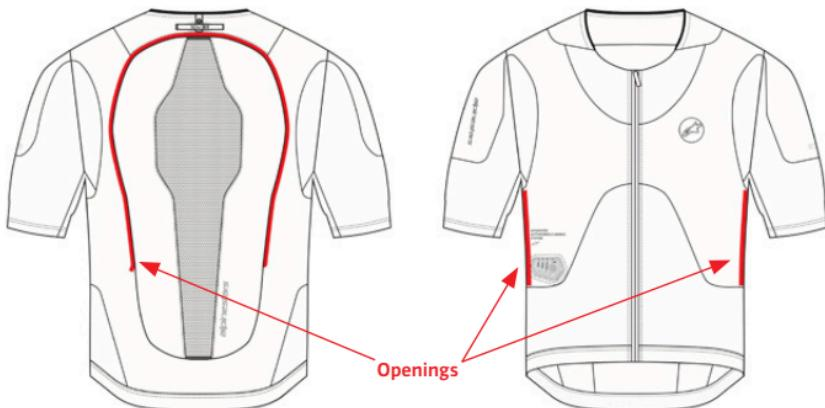

Figure 24: Base Layer (1) Openings
2. Detach the Back Protector (4) – Detach the Velcro on the upper part of the Back Protector (4) and separate the Back Protector (4) from the Base Layer (1).
3. Detach the Airbag (11) - Through the rear opening, proceed to detach all 12 of the connection loops that connect the Airbag (11) to the Base Layer (1) in the rear part of the System and in the sleeves area. To access the connection loops on the front part of the System use the two openings present on the sides of the inside of the garment, the openings are located on the sides of the System directly underneath the armpit area, as shown in Figure 24. Proceed by removing the Airbag (11) entirely from the Base Layer (1).